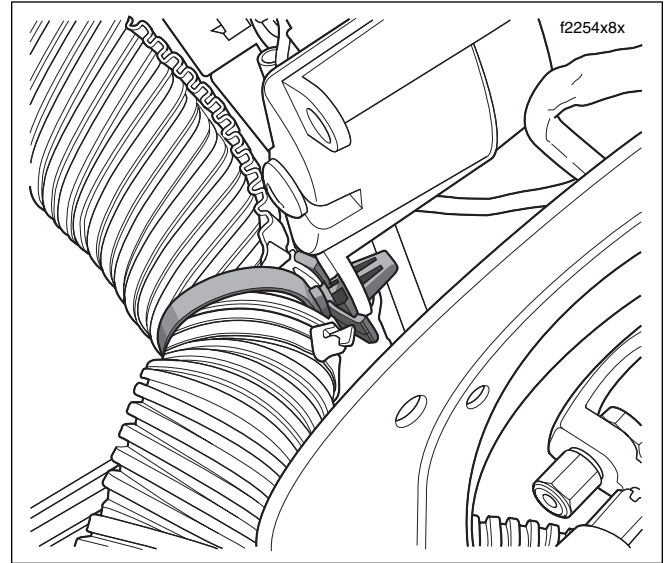

Figure 8-171. Anchor Interconnect Harness in Lower Ears of Speedometer/Tachometer Brackets
3. Release anchors on convoluted tubing of interconnect harness from lower outboard ears of speedometer and tachometer brackets. See Figure 8-171. For best results, squeeze anchor with needle nose pliers before pulling from hole in ear.
2. Install anchors on convoluted tubing of interconnect harness into lower outboard ears of speedometer and tachometer brackets. See Figure 8-171.